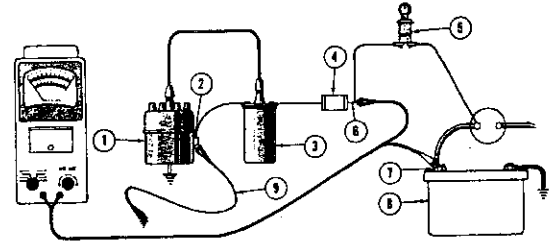

FIG. C-20—IGNITION PRIMARY CIRCUIT RESISTANCE CHECK
a. Connect voltmeter positive (+) lead to the positive battery terminal, as shown in Fig. C-20. The negative lead (-) is connected to the ignition side of the resistor on Dauntless V-6 engine. The negative lead (-) is connected to the ignition primary of the coil on Hurricane F4 engine. Connect a jumper wire from the distributor primary terminal of the coil to the ground. Be sure all lights and accessories are off.